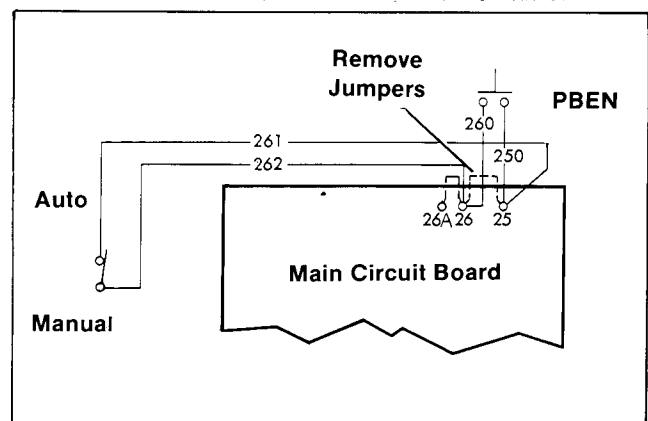

Figure 19. 29-H, J Connections
- **Acc. 29-H, J—Switch** to select either AUTO or MANUAL mode of operation from emergency to normal. AUTO has standard sequence of operation. When in manual position sequence of operation same as in Acc. 29-C, E. See Figure 19 for connections.